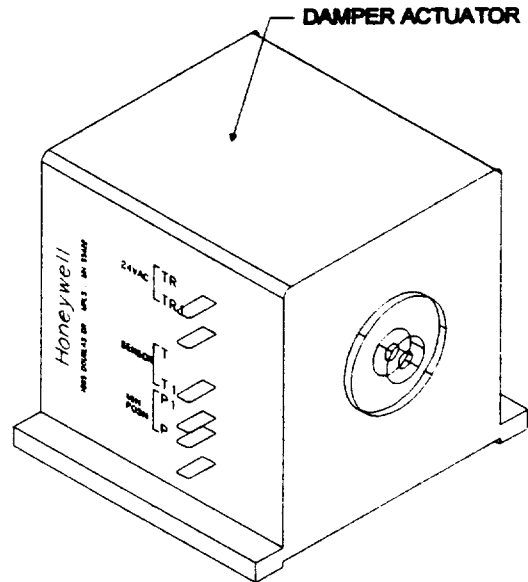

FIGURE 7
- 4—Install jumper on damper motor terminals T and T1. See Figure 7.